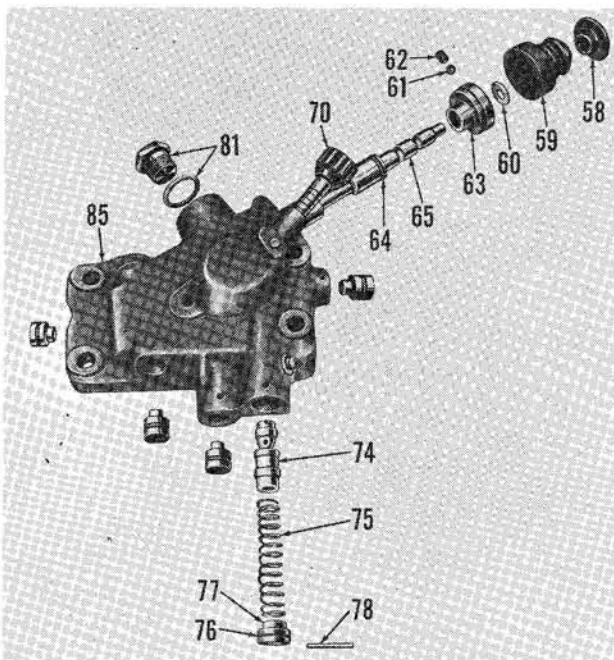

Fig. 206—Exploded view of flow control and selector valve assembly; refer also to Fig. 210.
260. Models "FSM" and "New FSM" are equipped with a flow control and selector valve assembly. Refer to exploded view in Fig. 206.
Disassembly procedure is evident from inspection of unit and reference to exploded view in Fig. 206. The flow control valve (74) and the selector valve spool (65) are a selective fit in bores of valve housing. If necessary to renew either valve spool, select the largest size that will fit in bore with-